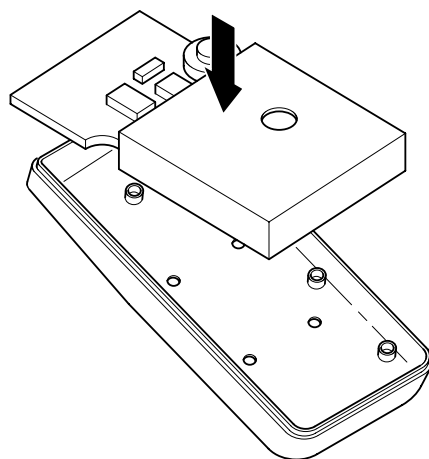

Figure 26: Handsfree PCB reinstallation
1. (Figure 26) Reinstall the handsfree PCB into the case (3 screws).